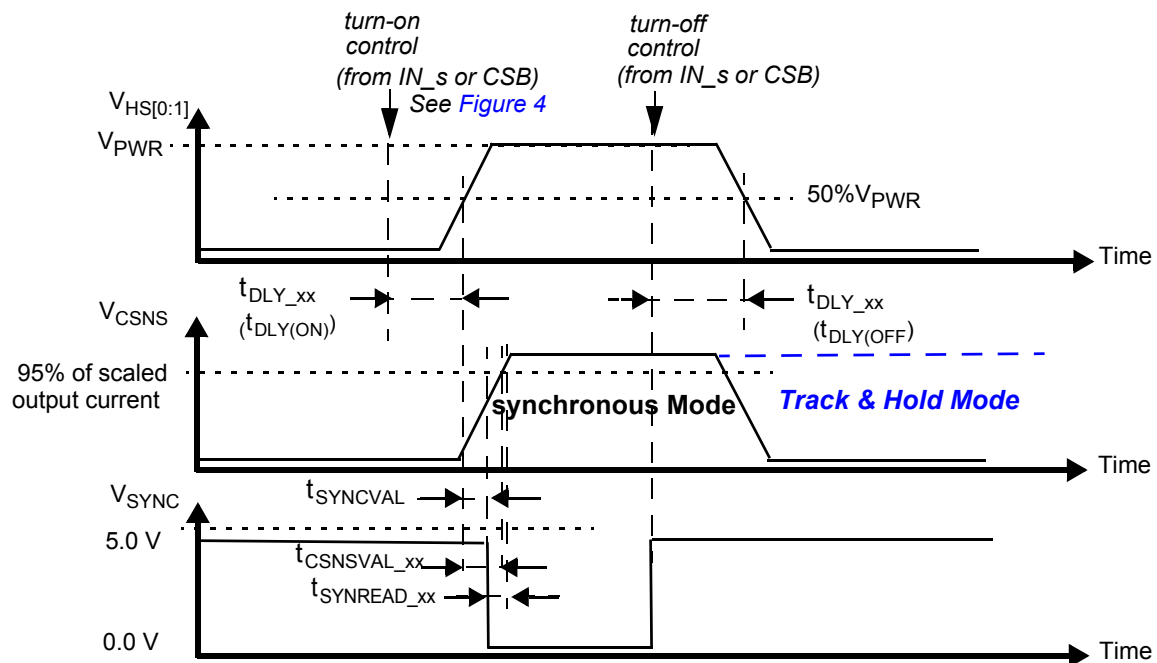

Figure 9. Synchronous & Track-and-Hold Current Sensing Modes: Associated Delay & Settling Times
34. Settling time ( =  $t_{\text{CSNSVAL\_xx}}$ ), SYNC output signal delay ( =  $t_{\text{SYNCVAL\_xx}}$ ) and Read-out delay ( =  $t_{\text{SYNREAD\_xx}}$ ) are defined for a stepped load current ( $100\text{ mA} < I(\text{LOAD}) < I_{\text{OCLX A FOR CSNS\_RATIO\_S}} = 1$ , AND  $300\text{ mA} < I(\text{LOAD}) < I_{\text{OCLX A\_0 FOR CSNS\_RATIO\_S}} = 0$ ). (see Figure 9 and Output Current Monitoring \(CSNS\))
The CS pin allows independent current monitoring of channel 0 or channel 1 up to the steady-state overcurrent threshold. It can also be used to sense the device temperature. The different functions are selected by setting bits CSNS1\_en and CSNS0\_en to the appropriate value (Table 23). When the CSNS pin is sensed during switch-off in the (optional) track & hold mode (see Figure 9), it outputs the scaled value of the load current as it was just before turn-Off. When several devices share the same pull-down resistor, the CSNS pins of devices, the current of which is not monitored, must be tri-stated. This is accomplished by setting CSNS0\_en = 0 and CSNS1\_en = 0 in their GCR register (Table 12). Settling time ( $t_{CSNSVAL\_XX}$ ) is defined as the time between the instant at the middle of the output voltage's rising edge ( $HS[0:1] = 50\%$  of  $V_{PWR}$ ), and the instant at which the voltage on the CSNS pin has settled to  $\pm 5.0\%$  of its final value. Anytime an overcurrent window is active, the CSNS pin is disabled (see Overcurrent Detection on Resistive and Inductive Loads). The current and temperature sensing functions are unavailable in Fail-safe mode and in Normal mode when operating without the  $V_{DD}$  supply voltage. In order to generate a voltage output, this pin requires a pull-down resistor ( $R(CSNS)=1.0\text{ k}\Omega$  typ. and  $470 < R(CSNS) < 10\text{ k}$ ). When the current sense resistor connected to the CSNS pin is disconnected, the CSNS voltage is clamped to  $V_{CL(CSNS)}$ . The CSNS pin can source currents up to about  $5.6\text{ mA}$ .
To synchronize current sensing with an external process, the SYNC signal can be connected to a digital input of an external MCU. An open-drain pull-down on SYNC indicates that the current sense signal is accurate and ready to be read. The current sense signal on the CSNS pin has the specified accuracy  $t_{SYNREAD\_XX}$  seconds after the falling edge on the SYNC pin (Figure 9) and remains valid until a rising edge is generated. The rising edge that is generated by the SYNC pin at the turn-OFF instant (internal or external) may also be used to implement synchronization with the external MCU. Parameter  $t_{SYNVAL\_XX}$  is defined as the time between the instant at the middle of the output voltage rising edge ( $HS[0:1] = 50\%$  of  $V_{PWR}$ ), and the instant at which the voltage on the SYNC-pin drops below  $0.4\text{ V}$  ( $V_{SOL}$ ). The SYNC pins of different devices can be connected together to save micro-controller input channels. However, in this configuration, the CSNS of only one device should be active at a time. Otherwise, the MCU is not be able to determine the source of the SYNC signal. The SYNC pin requires an external pull-up resistor to  $V_{DD}$ .